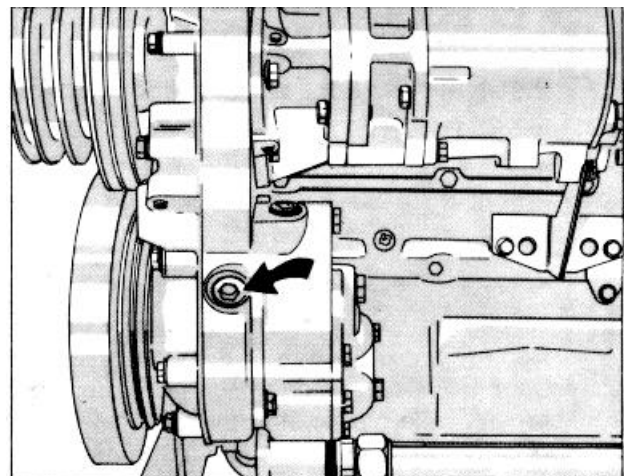
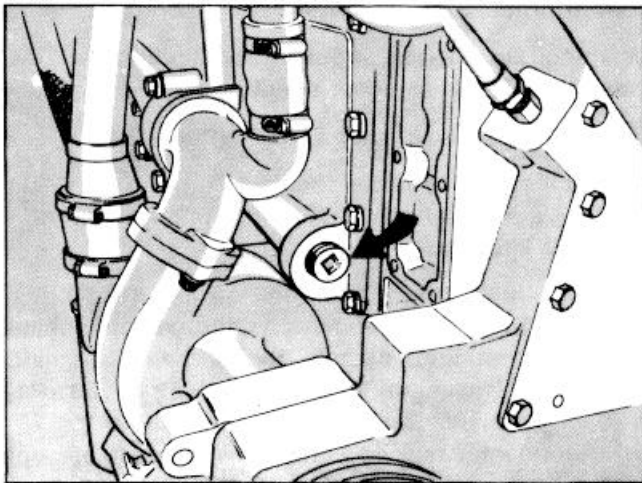

Fig. 1-1 (OM1001L). Lubricating system priming point-NT-855 C.I.D. Engine
Fig. 1-7 (OM1004L). Lubricating system priming point- KT/KTA C.I.D. Engine
2. Remove the plug from the lubricating oil crossover passage on NH/NT-855 Engines, Fig. 1-1. Remove the plug from the head of the lubricating oil filter housing on V Engines, Fig's. 1-2, 1-3, 1-4, 1-5 and 1-6. On KT/KTA-1150 Engines, remove the plug from the front of the oil cooler housing, Fig. 1-7.